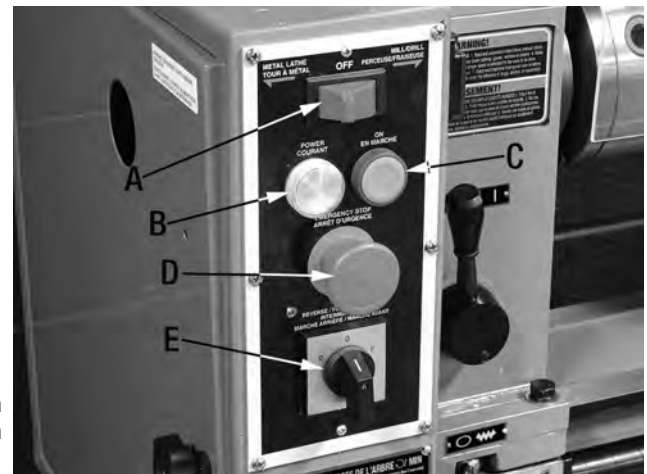

FIGURE 8
Lathe/OFF/Mill Selector Switch (A) Fig.8.-
Power Indicator (B) Fig.8.-
On Switch (C) Fig.8.-
Emergency Stop Button (D) Fig.8.-
Forward/Reverse Switch (E) Fig.8.-